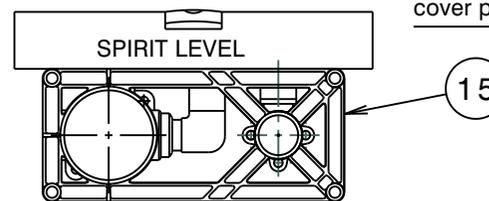

Fig. 6
- * To ensure the wall elbow (11+) is mounted accurately, a plastic template (15) is supplied to assist with installation. (Fig.6)
* Mixer body (8) must be installed square to wall/tile face, to ensure cover plate (9) sits flush.
* **Note:** If the outlet (12) is required to be on the left of the mixer body (8) when installed, remove screw (12a) with 2mm allen key (14) and fit into opposite hole in outlet (12).
- 2) Connect the outlet of mixer body (8) to the inlet of wall elbow (11+) using suitable pipework. **Note:** Pipework and fittings are not supplied. Fit the large hole of the template (15) over the protective sleeve of the mixer body with the G1/2B outlet thread of the wall elbow (11+) located in the remaining hole as shown in Fig. 6. **Note:-** The flat face of the template (15) must be at the back. Place a spirit level on the corner pegs at the top of the template (15), then when the alignment is horizontal fix the wall elbow using suitable screws through the holes in its base. Remove template (15) & discard.